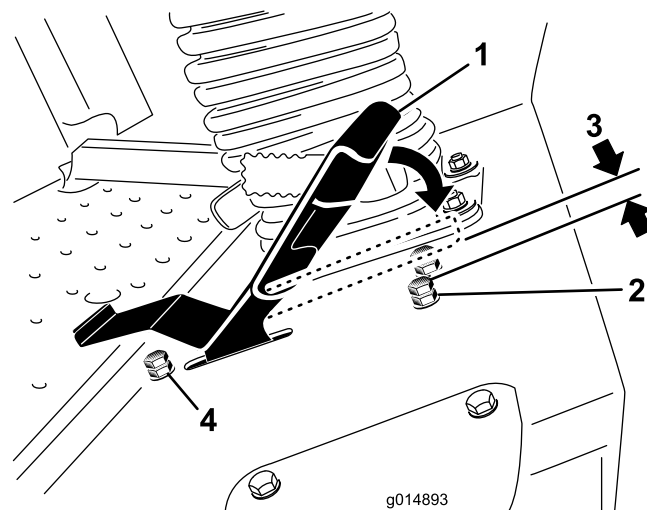

Figure 45
3. Loosen the jam nut on the stop bolt for the traction pedal (Figure 45).